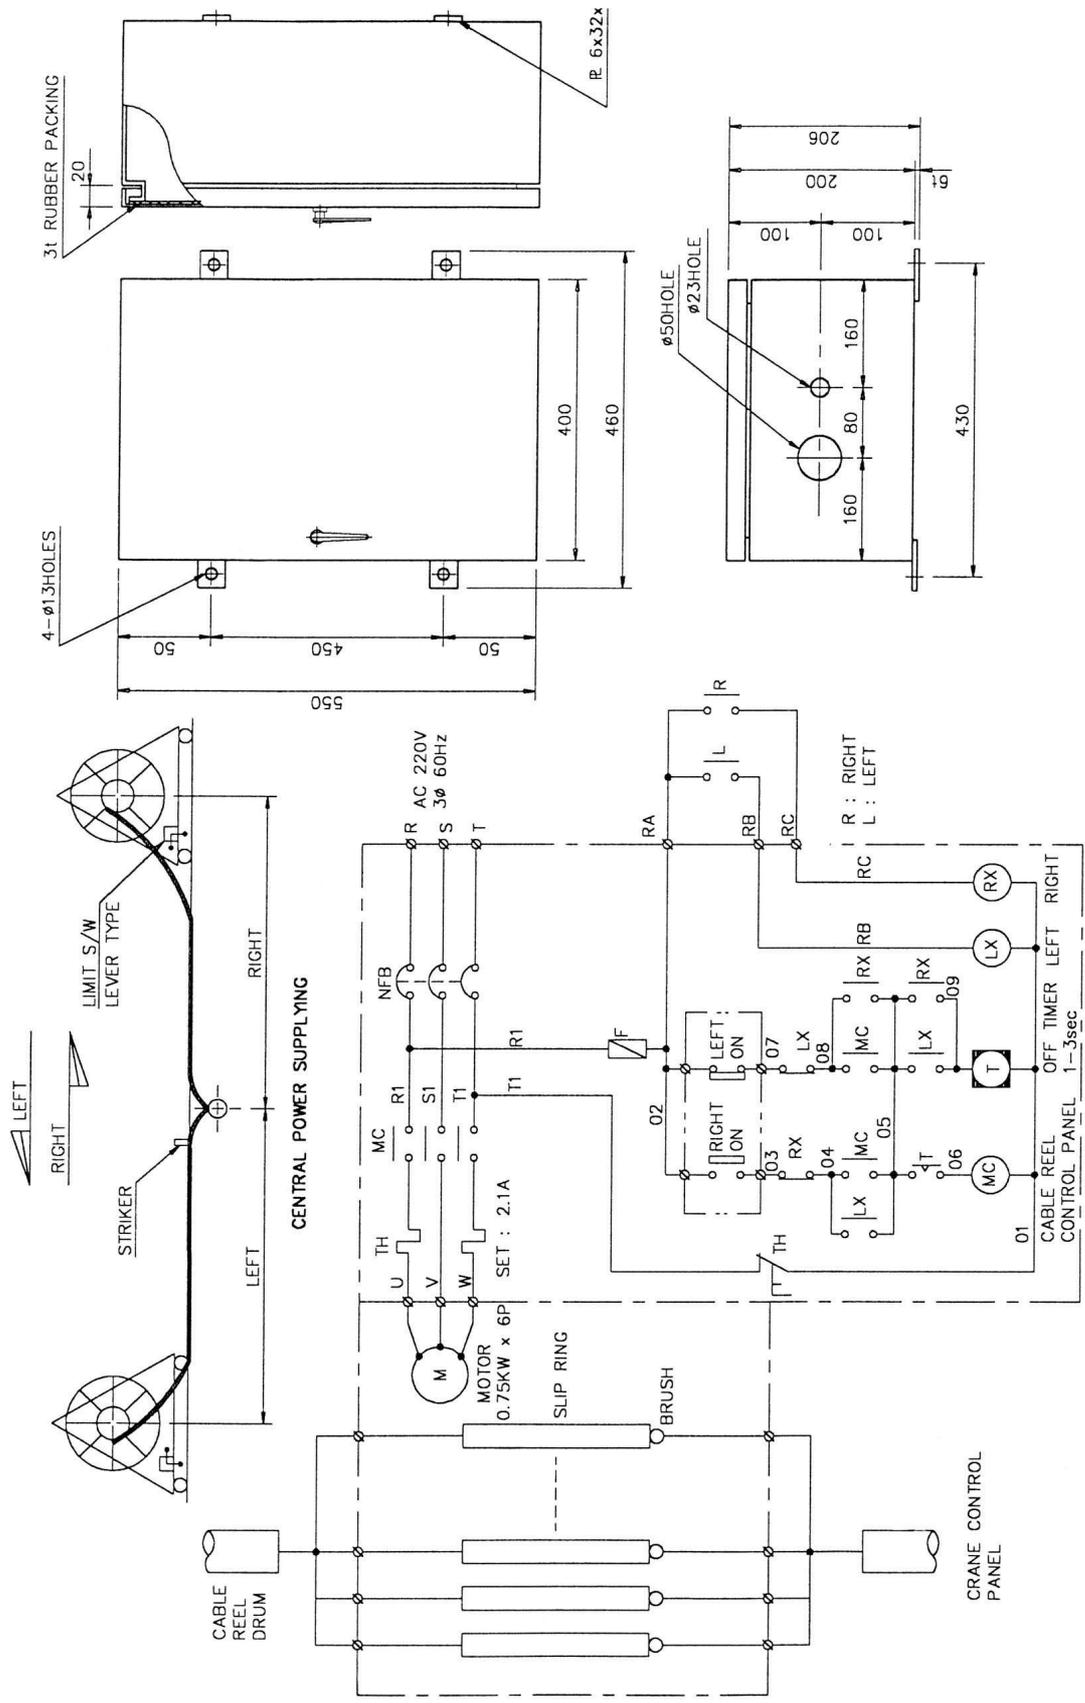

Figure 12. Horizontal central power supplying
8.3 HORIZONTAL CENTRAL POWER SUPPLYING (Figure 12)